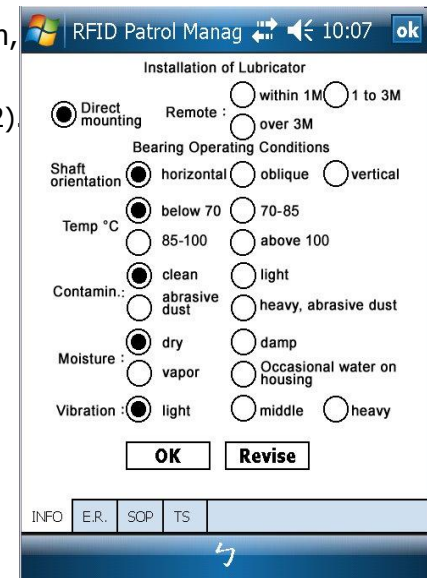

Fig. 2
- ❼ Next, click **NEXT PAGE** button, **Bearing Operating Conditions table** will appear on screen (Fig.2). Select bearing working conditions as required.